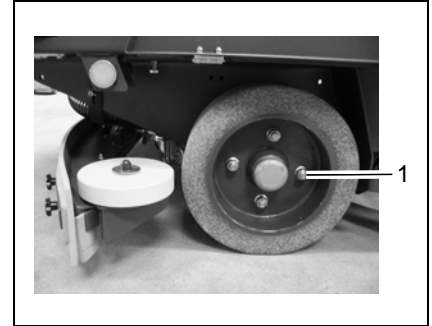

Fig. 36
- The wheel nuts on the rear wheels (Fig. 36/1) must be subject to their first check after 100 operating hours and subsequently every 200 hours.
The tightening torque for the wheel nuts (Fig. 36/1) is 140 Nm.
- Remove the wheel nuts (Fig. 36/1).
- Screw on and tighten the wheel nuts (Fig. 36/1).